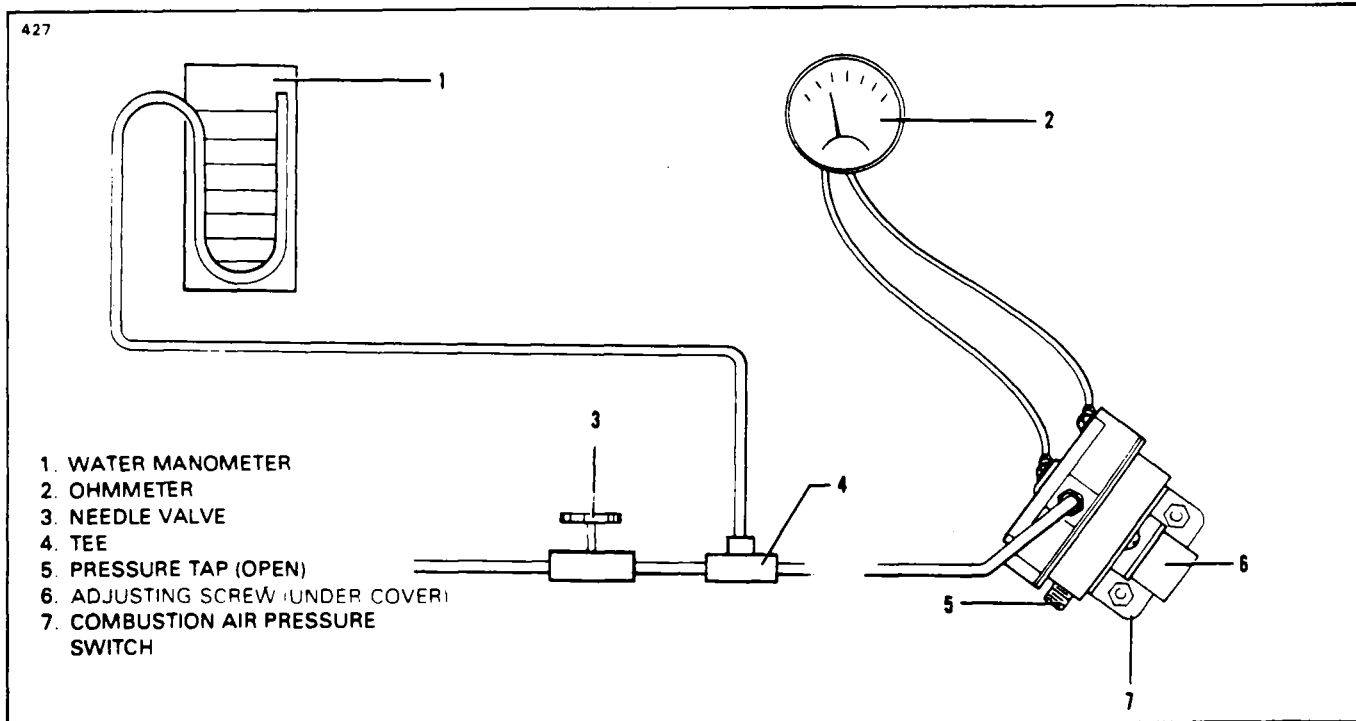

Figure 21-4. Test Set-up - Combustion Air Pressure Switch
4. The combustion air pressure switch installed on the system must respond to delicate pressure changes and should always be checked and/or replaced at overhaul. (Refer to Step 3 testing and Figure 21-4.)
3. Test the combustion air pressure switch as follows. (Refer to Figure 21-4.)